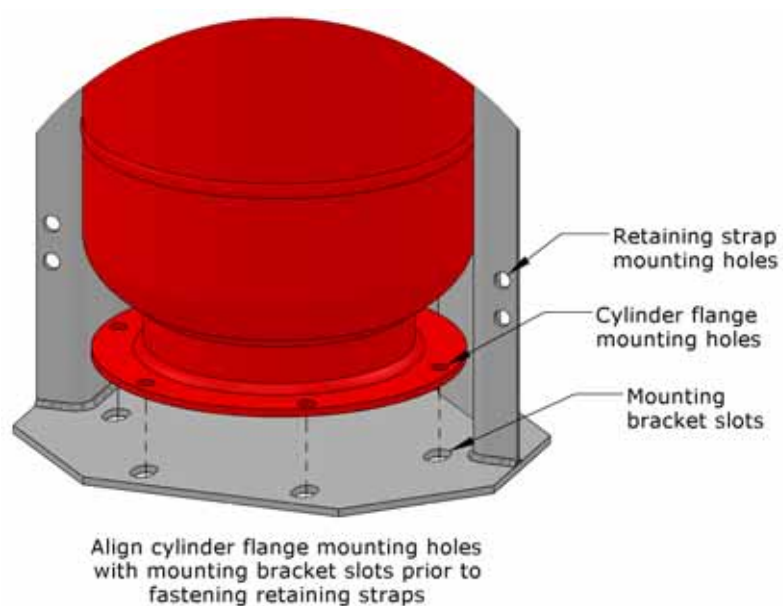

Figure 4-4. Cylinder Flange Alignment
5. Remove the diffuser plate. Attach the discharge adapter and diffuser plate (tether not shown) to the cylinder valve outlet using the supplied mounting bolts (see Figure 4-4).